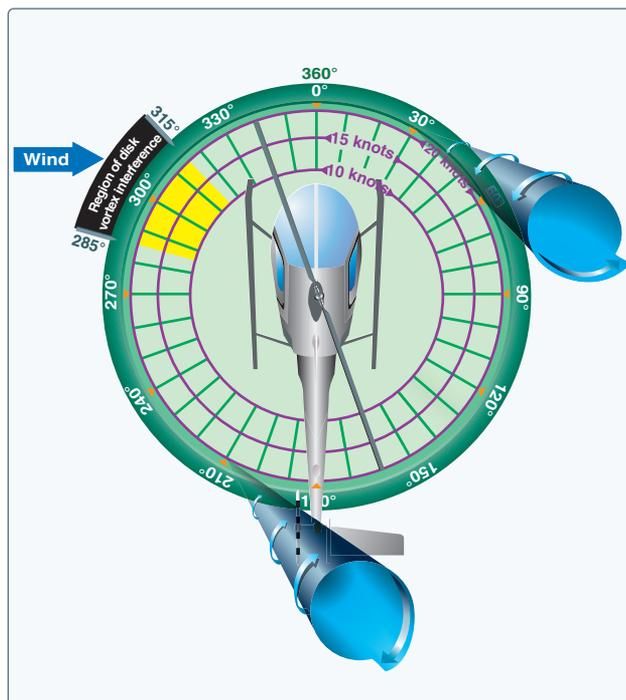

Figure 11-11. Main rotor disk vortex interference.
- a. Worst case—relative wind within  $\pm 15^\circ$  of the 10 o'clock position, generating vortices that can blow directly into the tail rotor. This is dictated by the characteristics of the helicopters aerodynamics of tailboom position, tailrotor size and position relative to the main rotor and vertical stabilizer, size and shape. [Figure 11-11]
2. Winds from  $\pm 15^\circ$  of the 10 o'clock position and probably on around to 5 o'clock position [Figure 11-11]
Refer to Figure 11-11. Winds at velocities of 10–30 knots from the left front cause the main rotor vortex to be blown into the tail rotor by the relative wind. This main rotor disk vortex causes the tail rotor to operate in an extremely turbulent environment. During a right turn, the tail rotor experiences a reduction of thrust as it comes into the area of the main rotor disk vortex. The reduction in tail rotor thrust comes from the airflow changes experienced at the tail rotor as the main rotor disk vortex moves across the tail rotor disk.